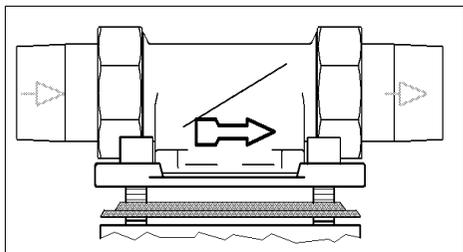

Fig. 1: Fitted Rotating Flange
- Direction of Flow (see Fig. 1)